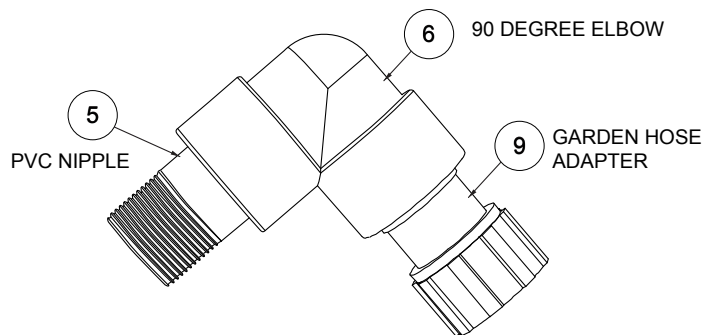
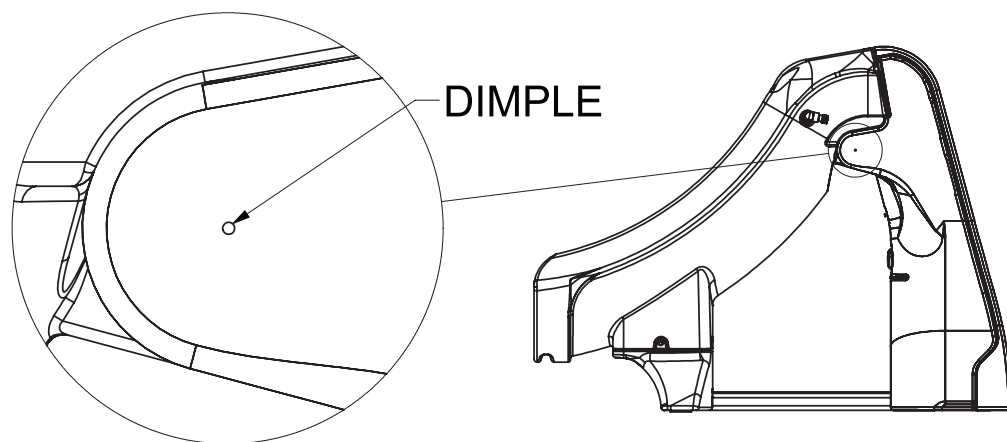

Figure 8
Figure 9
8. Observe the position of the exit of the slide as shown in **Figures 8, 9** and **10** on pages 13 and 14.
1. Thread the nipple (5) into 90° elbow (6) as shown in **Figure 8**. It is recommended to apply a thread sealant or Teflon tape to the threads to prevent leaking.
2. Install assembled nipple (5) and elbow (6) into the threaded hole in the left side of the runway.
3. Turn the assembled nipple (5) and elbow (6) until the open end of the elbow fitting is pointing back toward the bottom of the stairs as shown in **Figures 9** and **11**.
4. Install the garden hose thread adapter (9) into the open end of the elbow fitting (6) as shown in **Figure 8**. It is recommended to apply a thread sealant or Teflon tape to the threads to prevent leaking.
5. Locate the dimple on the left side of the ladder as shown in **Figure 9**. Place the hose clip screw (8) through the hole in the hose clip (7). Align the screw with the dimple in the ladder, and install the screw into the ladder side wall. Tighten until snug making sure not to overtighten the screw.